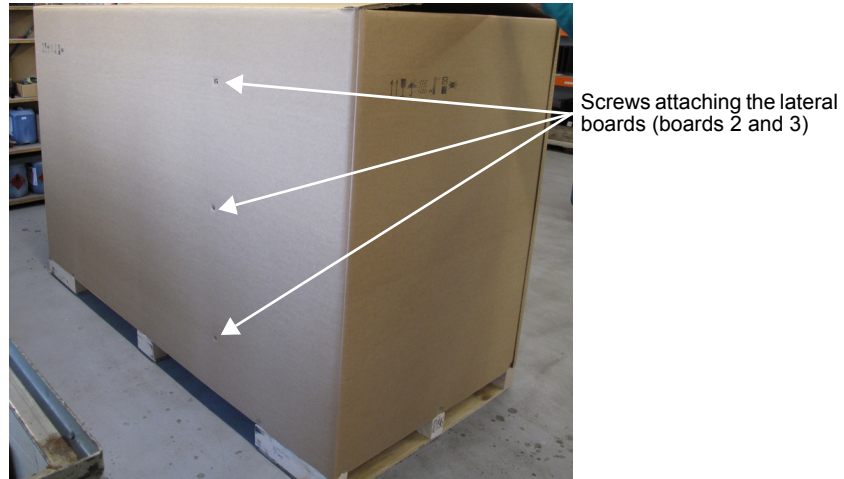

Fig. 3-7 Screws for attachment of the lateral boards
- Unfasten the screws on the outside of the box, attaching board 3 on the inside of the cardboard box (→ Fig. 3-7), and remove board 3.
- Unfasten the screws on the outside of the box, attaching board 2 on the inside of the cardboard box (→ Fig. 3-7), and remove board 2.